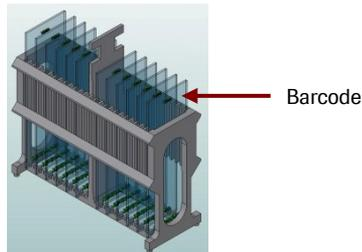

Figure 8: Insert Slides with the Barcode at the Top into the Slide Rack
9. If washing multiple slides, transfer the slide with the barcode at the top into a slide rack (Figure 8) in the wash tank that contains room temperature Wash I. If washing one slide, transfer the slide into a slide container that contains room temperature Wash I. Agitate vigorously for 10 - 15 seconds.